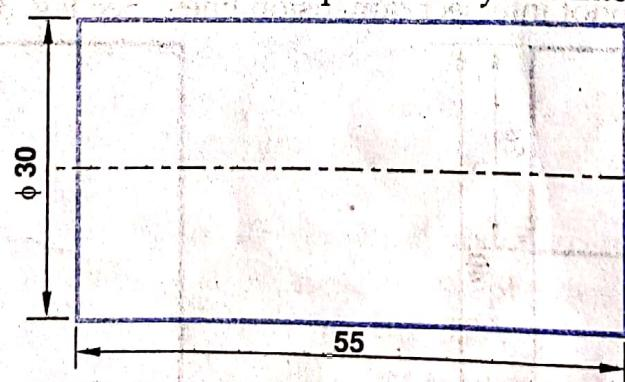

Fig. 3.12 Interpretation of the part to be dimensioned
- (i) Any dimension given, must be clear and permit only one interpretation. See Fig. 3.12.